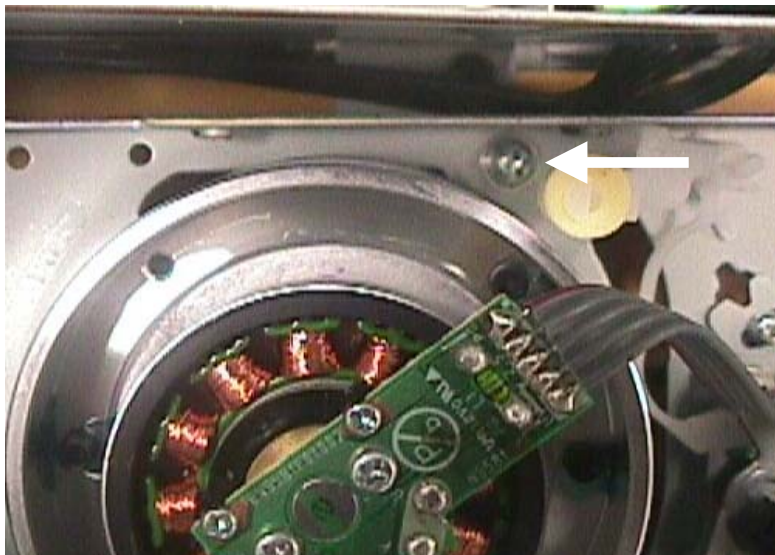

Figure 12 – Caution Area
- 3) While unscrewing the cross screws, great care must be taken with the screw located near the helical drum at the VHS module to prevent accidental scratches to the drum shown in figure 12.